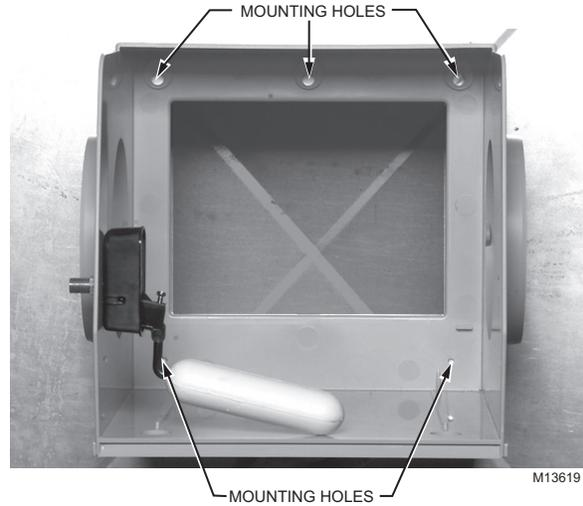

Fig. 6. Marking Mounting Hole locations.
7. Position the HE120 Humidifier Housing over the opening (make sure it is level) and mark the five mounting holes. See Fig. 6.